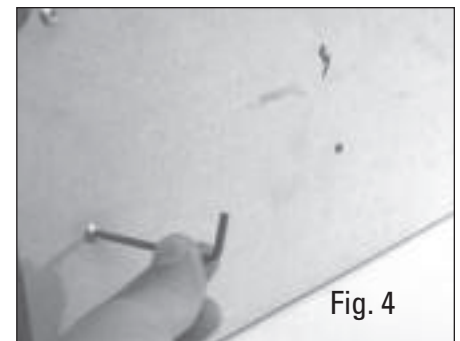

Fig. 4
1. Turn saw base over and install base board. Be sure holes for rods are located toward back of saw base (Fig. 4).